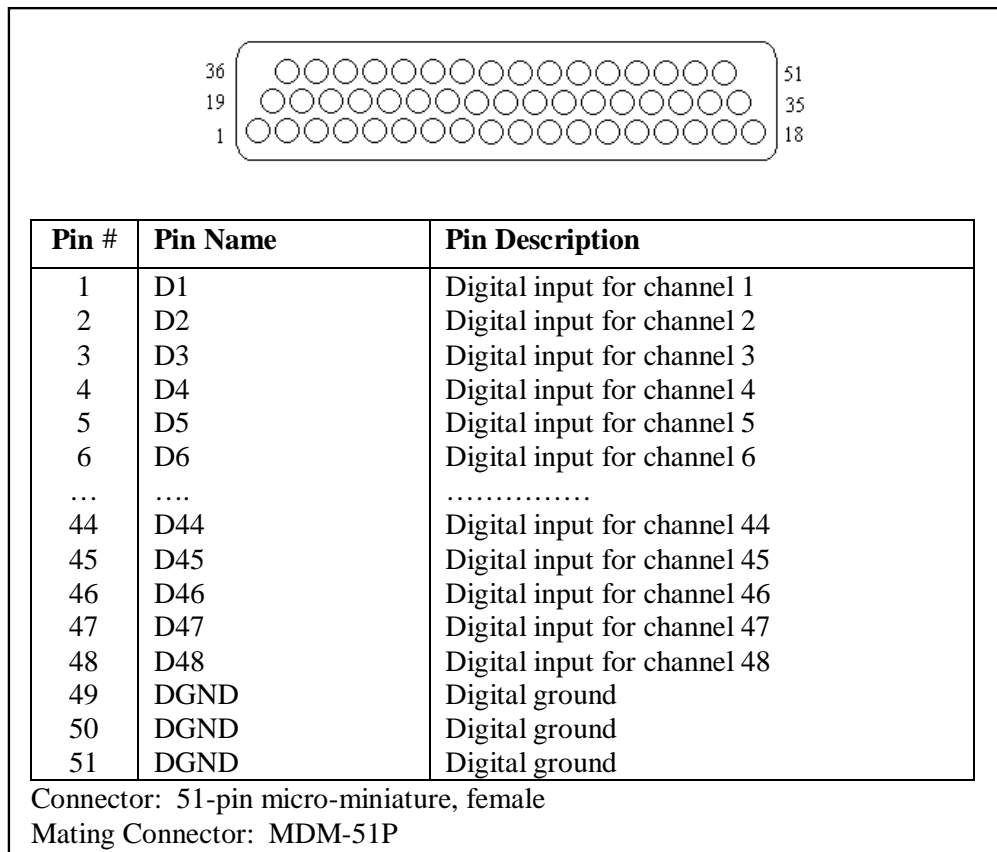

Figure 2-5. MicroPro/KAM-500 Digital Input Card Pin Assignment.
As mentioned above, the instrumentation modules typically used in ATLAS include the digital, high-level analog, and strain-gauge modules. Figure 2-5 describes the pin assignment on the 15-pin connector of the digital input module. Pins 1–48 are treated as digital input lines. A voltage level below 0.8 VDC is interpreted as 0; a voltage level of 2.0 VDC or higher is interpreted as 1. Maximum allowable voltage levels are ± 20 VDC. The three DGND pins are connected to the mainframe back plane and to the DGND pin of any other DAS connector.
- a) Digital sensors will require the use of a digital input module (see Table 2-1 and Figure 2-5) with one line per bit connecting the sensor to the module and